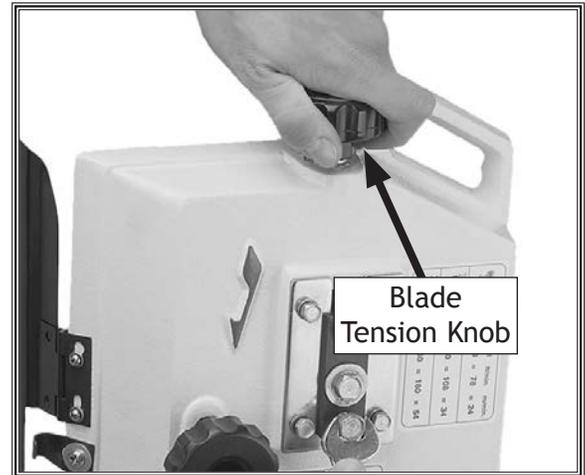

Figure 46. Blade tension knob.
4. Turn the blade tension knob in **Figure 46** clockwise to tighten the blade as tight as you can.